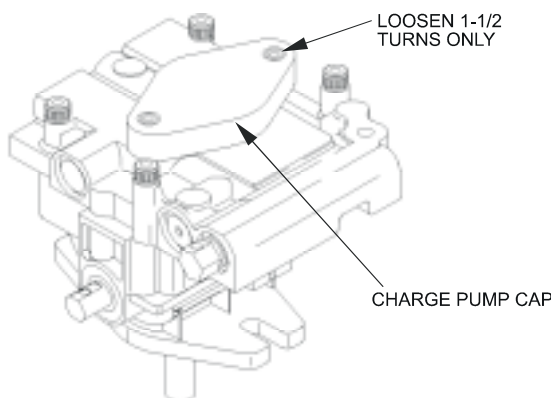

FIG. 7
- g) If either drive wheel does not rotate, one or both of the charge pumps (located on the top of the main pump as shown in Figure 7) may have lost their "prime". Refer to Section 5.1.10.
Air must be purged from the hydraulic system when any hydraulic components, including oil filter, are removed or any of the hydraulic lines are disconnected. The critical area for purging air from the hydraulic system is between the oil reservoir and each charge pump located on the top of each variable displacement pump. (See Figure 7).
- e) To “prime” charge pump, loosen two hex socket head capscrews (shown in Figure 7) **1-1/2 turns only. Make sure engine is not running.** Lift charge pump housing upward and wait for a steady flow of oil to flow out from under housing. **Retighten capscrews.** Do this for both pumps. Note: Hydraulic reservoir can be pressurized to up to 5 psi to speed this process.